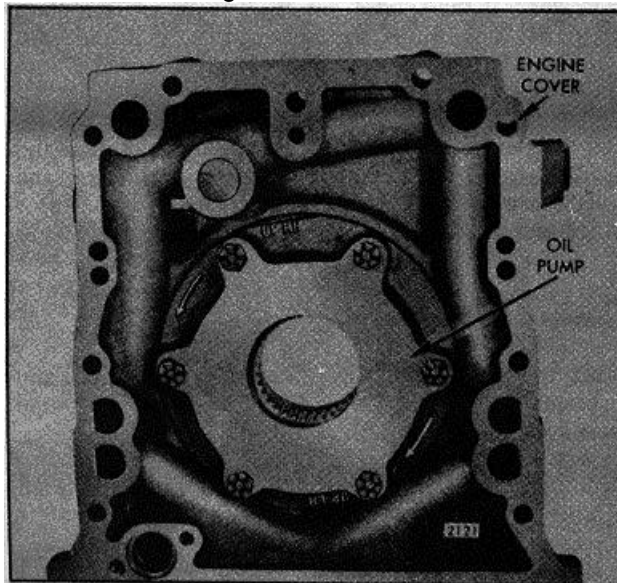

Fig. 1 - Typical Right - Hand Rotation Lubricating Oil Pump Mounting
6. Remove the six bolts and lock washers (if used) which attach the pump assembly to the engine front cover (Fig. 1) and withdraw the pump assembly from the cover.